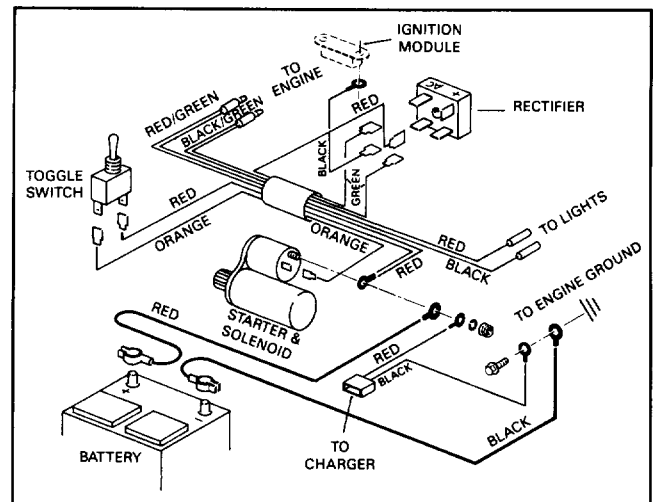

Figure 12
17. Connect positive (+) battery cable, red wire of wire harness and red wire of charging plug to solenoid terminal with spring lockwasher and M8 flange nut (Fig. 12).
18. Connect one end of orange harness wire to solenoid terminal and opposite end to either terminal of toggle switch (Fig. 12).
19. Connect red/green and black/green harness wires to red/white engine wires (Fig. 12).
20. Connect one red harness wire to toggle switch and other red wire to positive (+) terminal of rectifier (Fig. 12).
21. Connect both green harness wires to diagonal rectifier terminals marked "AC" (Fig. 12).